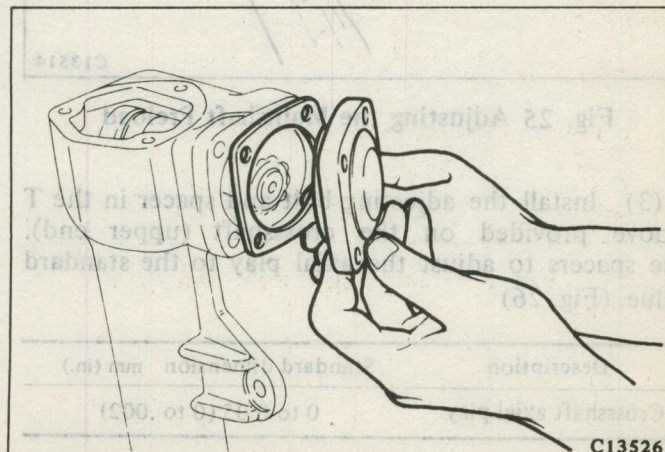

Fig. 24 Installing the End Cover
(3) Install the gasket, shim, and gasket end cover to the housing. Tighten the lock nut to the standard torque. When installing the end cover, apply an appropriate amount of adhesive to both sides of the gasket and the bolts. (Fig. 24)